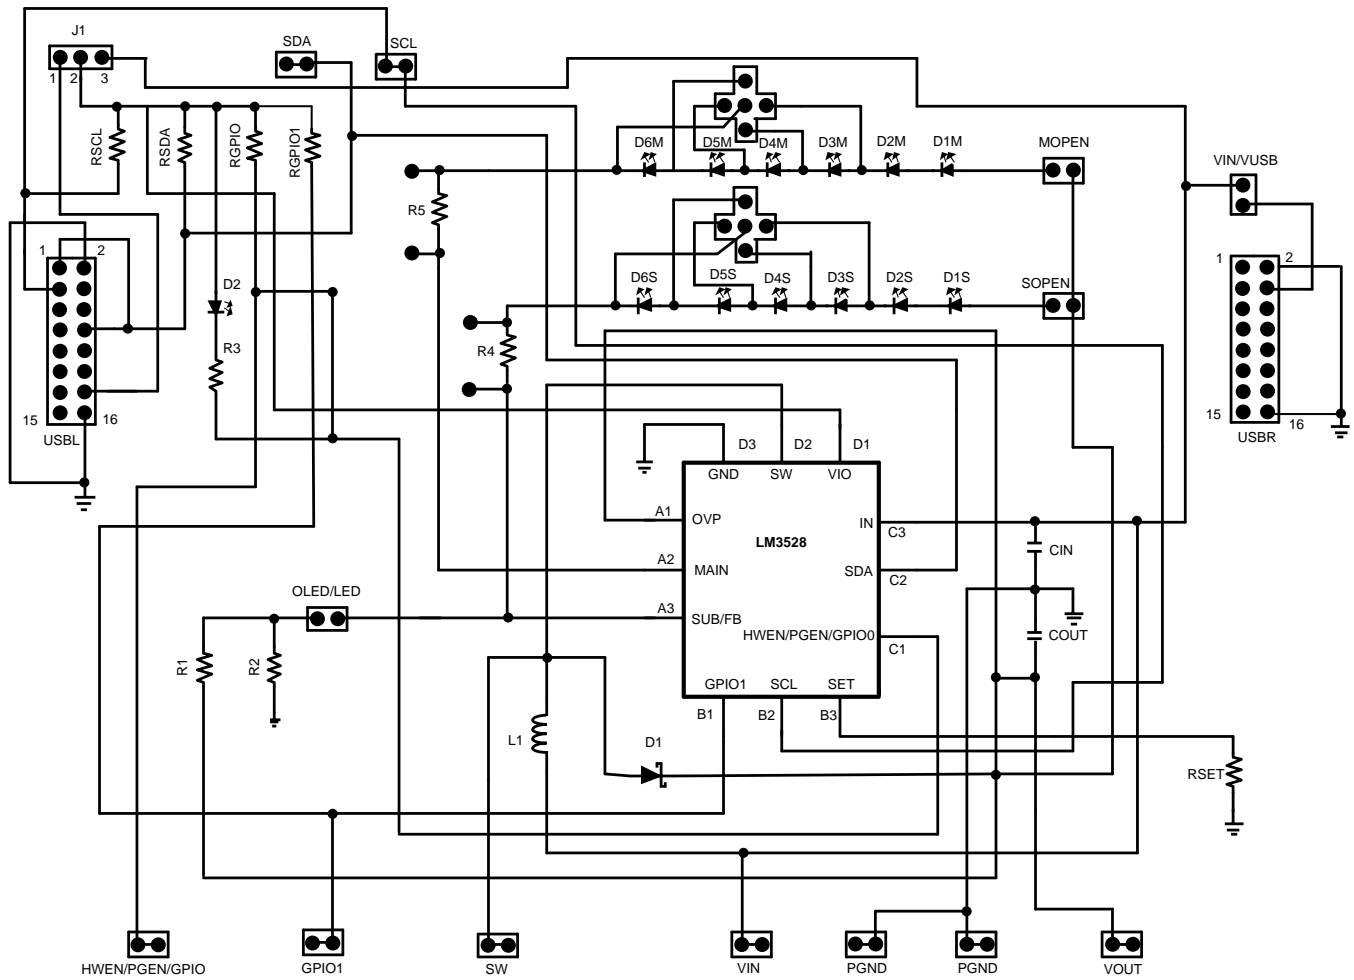

Figure 1. LM3528 Evaluation Board Schematic
6 Basic Connections (see Figure 1)
- J1 is a 3-pin, 3-position jumper. The leftmost pin (pin 1 in Figure 1) connects to the 3.3 V supply from the USB board (pin 14 on the USBL connector). The rightmost pin (pin 3 in Figure 1) connects to IN. The top middle pin (pin 2 in Figure 1) connects to VIO of the LM3528, the top side of the pull-up resistors (RSDA, RSCL, RGPI0, RGPI01), and the anode of the indicator diode D2.
- The 5-pin, 5-position jumpers (2/3/4/5/6 LEDM and 2/3/4/5/6 LEDS) located above the MAIN and SECONDARY LED strings, respectively, allow for shorting out of different LEDs in both the MAIN and the SECONDARY strings. Both jumpers have their center pin (pin 5 in Figure 1) connected to the cathode of the sixth LED in each string. Referring to jumper 2/3/4/5/6 LEDS, connecting pin 4 to pin 5 will short D6S, thus, making the SECONDARY string a five-LED configuration. Connect pin 3 to pin 5 to short D5S and D6S resulting in a four-LED configuration. Connect pin 2 to pin 5 for a three-LED configuration (D4S – D6S shorted). Connect pin 1 to pin 5 for a two-LED configuration (D3S – D6S shorted), and leave jumper 2/3/4/5/6 LEDS open for a six-LED configuration. The operation for jumper 2/3/4/5/6 LEDM is the same, only it applies to the MAIN LED string.